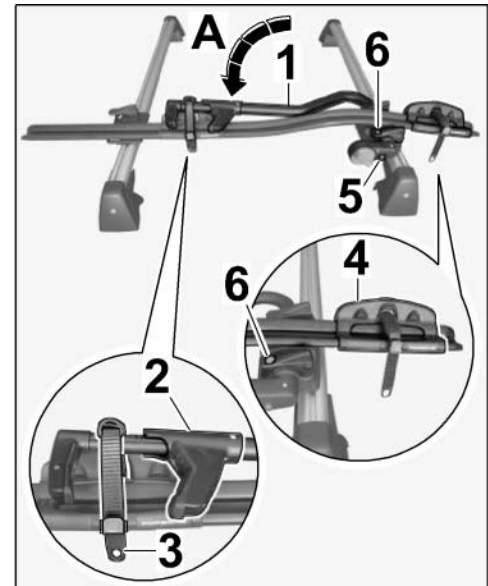

Figure 21
6.6 Swivel the frame holder (claw) and support tube onto the rear wheel mount (⇒ *Figure 21 -A-*) and secure it to the wheel mount with the tension strap.
6.7 Guide (front) tension strap into the lock for the wheel mount (⇒ *Figure 21 -5-*), align it symmetrically and then tighten it.
6.8 Align bicycle rack symmetrically on the roof transport system carrier bars. Adjust the tensioning lever and close the lock on the tensioning lever (⇒ *Figure 21 -7-*).